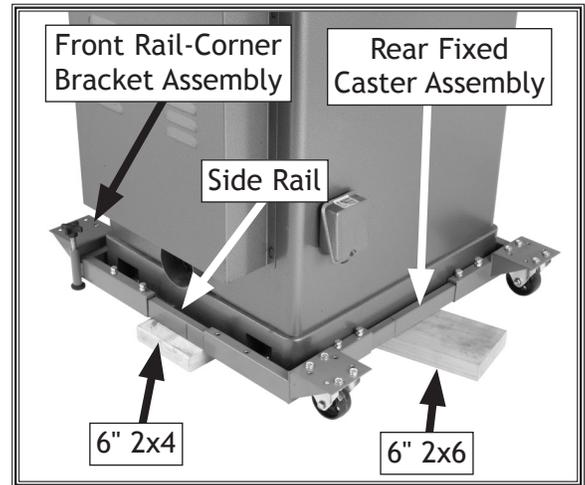

Figure 22. Rear fixed caster assembly inserted into front caster assembly.
17. While an assistant lifts up on the back of the machine, slide the rear fixed caster assembly onto the side rails of the front rail-corner bracket assembly so the rear assembly is close to the machine base, and the corner pads slide under the machine, as shown in **Figure 22**.
Tip: It may help to place a 6" 2x4 or 2x6 under the base temporarily if you need to adjust the width of the rear fixed caster assembly (see **Figure 22**). Remove the block after you finish adjustments.